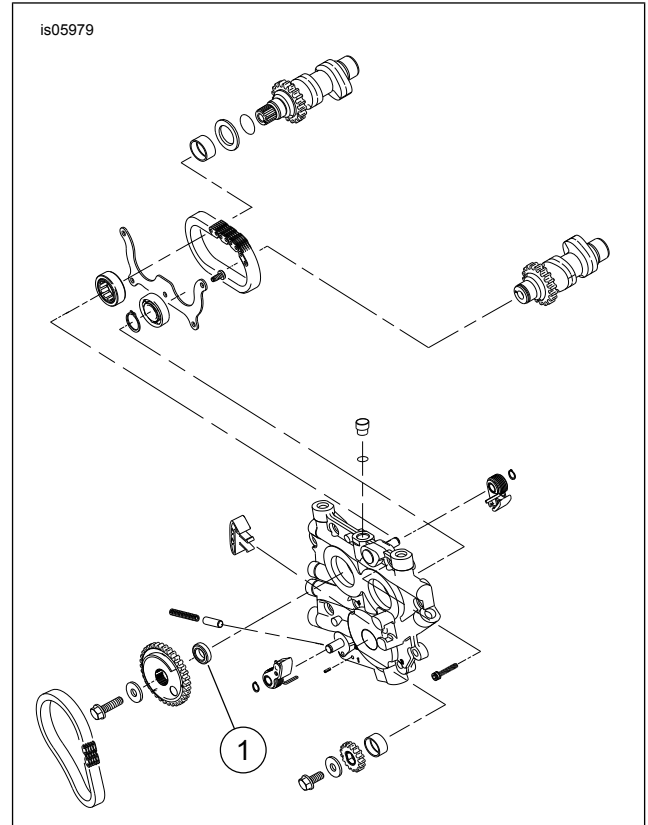

Figure 1. Service Parts: Cam Sprocket Spacer Kit
See Figure 1 and Table 1.
3. Install splined sprocket to (drive) camshaft according to instructions in applicable service manual. Use spacers listed in Figure 1. of this Instruction Sheet, in place of those listed in service manual.